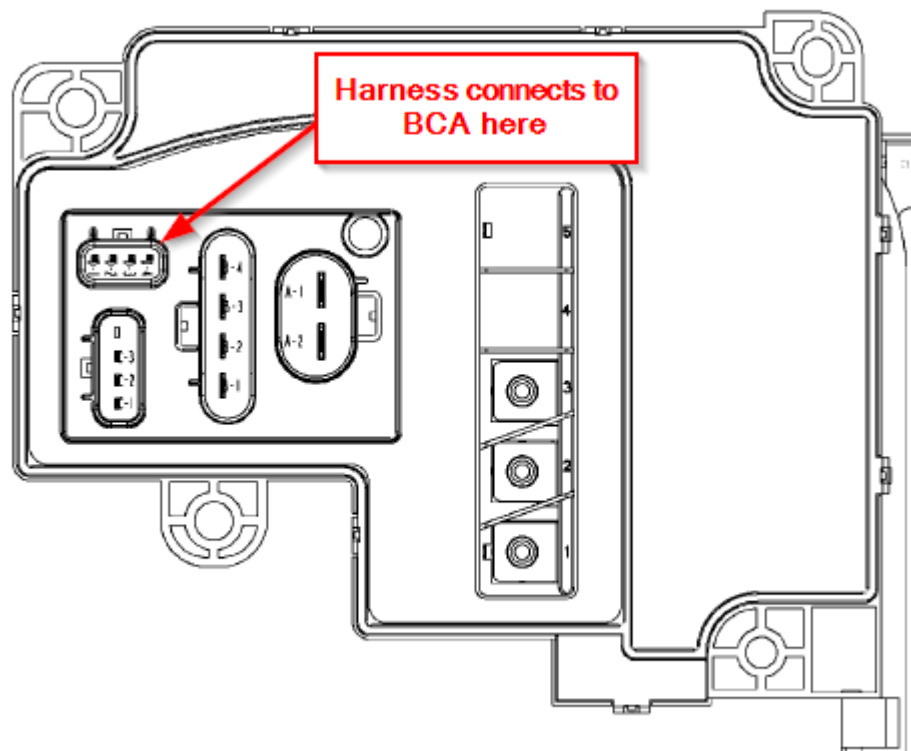

Fig. 8, BCA Harness Connection Location
9.3. Connect the new harness to the BCA in the location shown in **Fig. 8**. For details on the connection, see **Fig. 9**.